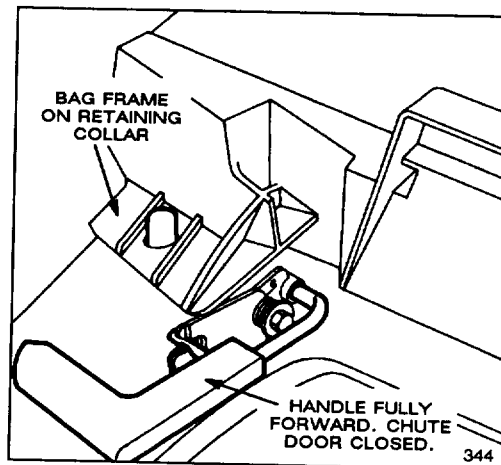

Figure 9
2. Assure discharge door handle is fully forward and pin is engaged in catch (Fig. 9).
3. **INSTALLING BAG**—Slide hole in bag door onto retaining post on housing (Fig. 9) and set rear of bag frame onto lower handle.
5. EMPTYING BAG—Stop engine and wait for all parts to stop. Move discharge door handle forward to engage the locking pin with catch (Fig. 9). Grasp handle at front and rear of bag